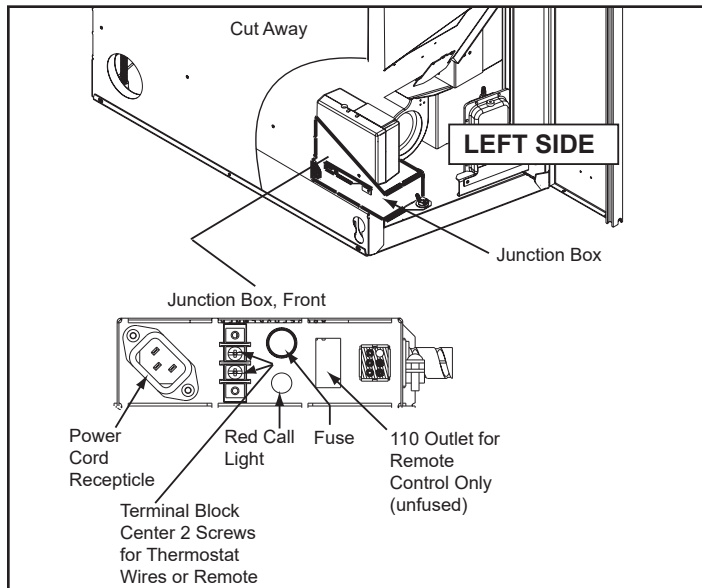

Figure 11.1
3. Locate the heat output control switch on the lower right side of the firebox in front of the right access panel. Set to the HIGH setting and then adjust the thermostat to its highest setting. The red call light will be on which is located on the front of the junction box behind the left access panel. This indicates the thermostat is calling for heat (**Figure 11.1 on page 11**).